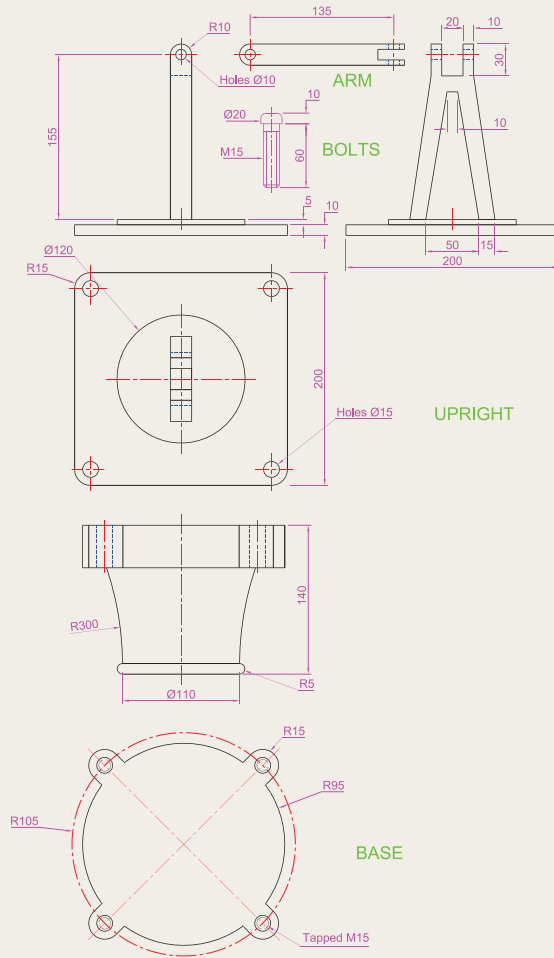

Fig. 18.27 Exercise 3 – the parts drawing
- Construct the 3D model shown in the rendering (Fig. 18.26) from the details given in the parts drawing of Fig. 18.27.